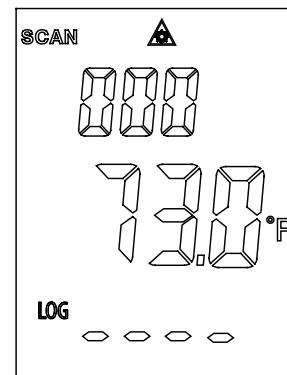

Fig. 3
1. While in **LOG** mode, hold the trigger, and use the **Up ▲** and **Down ▼** buttons until you reach LOG location “000” (Fig. 3). This can only be done when the trigger is being pulled, otherwise LOG location “000” cannot be accessed.